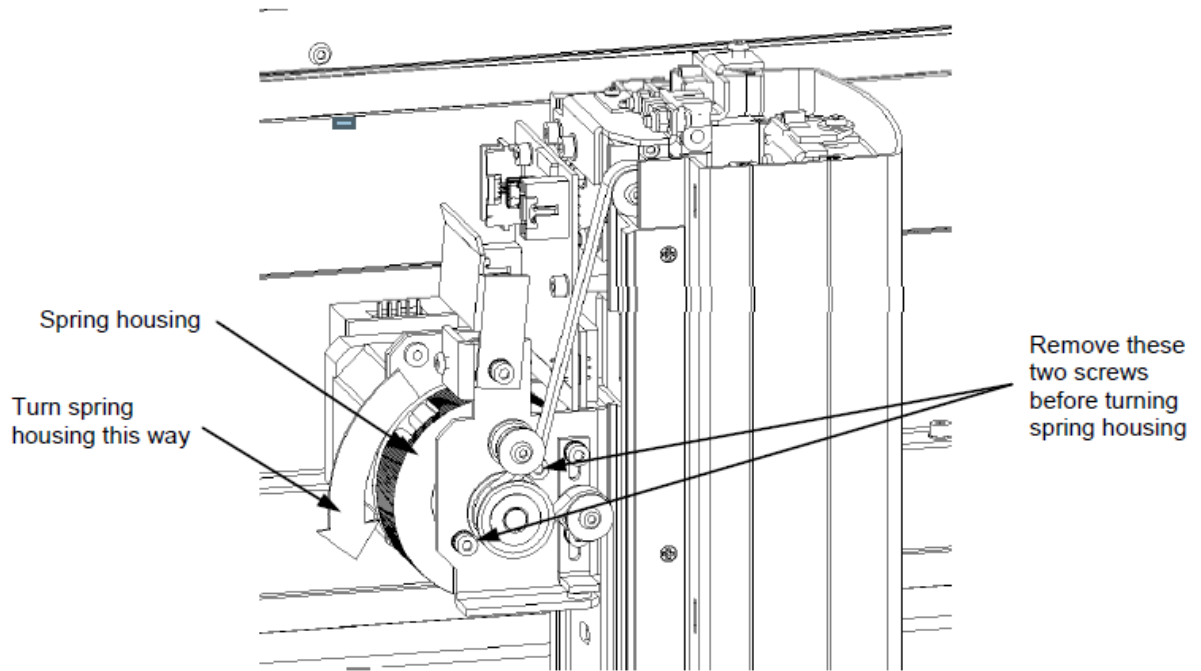

Figure Z-3: Spring Drive Housing
3. Remove the two screws holding the Z Drive Spring Housing to the Z Drive Motor Bracket (Figure Z-3).